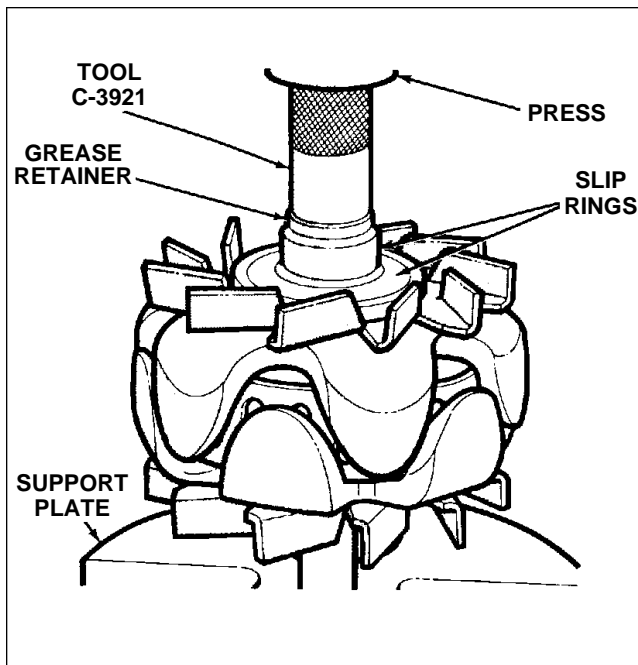

Figure 11-32. Installation of Grease Retainer
- a. Position grease retainer on rotor shaft and press retainer on shaft with installer tool C-3921. Plastic retainer is properly positioned when inner bore of installer tool bottoms on rotor shaft. (Refer to Figure 11-32.)